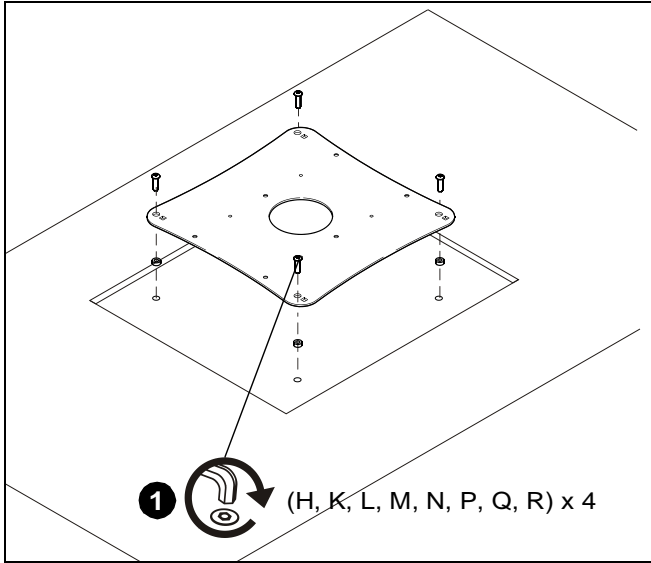

Figure 4
1. If an interface bracket was used in this installation, remove the screws attaching the interface bracket to the display. Replace with the same size button head security screws included in this kit (see Figure 4).